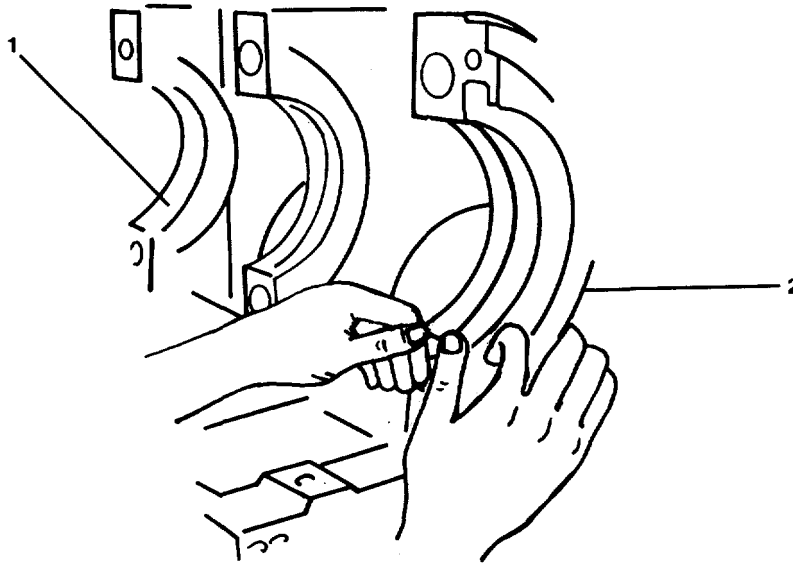

FIGURE 4-56. Main Bearing Shell (Sleeve) Installation.
- b. Place the new upper main bearing shells (sleeves) (1, FIG. 4-56) in the block (2). Align the tang in the bearing with the slot in the block. The ends of the bearing shell (1) must be flush with the parting face of the block (2).